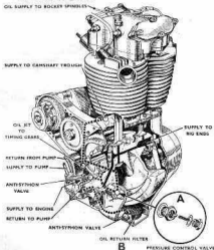

Fig. 2.—ENGINE LUBRICATION
The engine lubrication system (see Fig. 2) is of the dry sump type operated by a double gear pump, situated in the bottom of the timing case. All oilways are internal except for the supply and return pipes from the tank and the oil feed to the valve rockers. The oil flows from the tank—through a filter in the tank—to the supply portion of the pump, which delivers it past an automatic anti-syphon ball-valve to the timing side main bearing and thence to the hollow crankshaft and the big-end bearings, whilst a further internal oilway supplies oil via a pressure control valve to the timing gears and camshaft trough.
side of the pump and the big-end bearings. This is pre-set to control the pressure in the supply system, and it should be examined periodically—say every 1,000 miles—to ensure that it is operating freely and not impeded by the presence of even tiny particles of foreign matter. The construction of this valve is shown in the exploded view A, Fig. 2, and if it is dismantled, the parts should be thoroughly rinsed in petrol before reassembly.
The crankcase filter B (Fig. 2), can be withdrawn after removing the cover plate.
Remove and examine for cleanliness, as described on page 14, and illustrated at A (Fig. 2).
2. The crankcase filter B. (Fig. 2), which can be withdrawn after removing the cover plate.